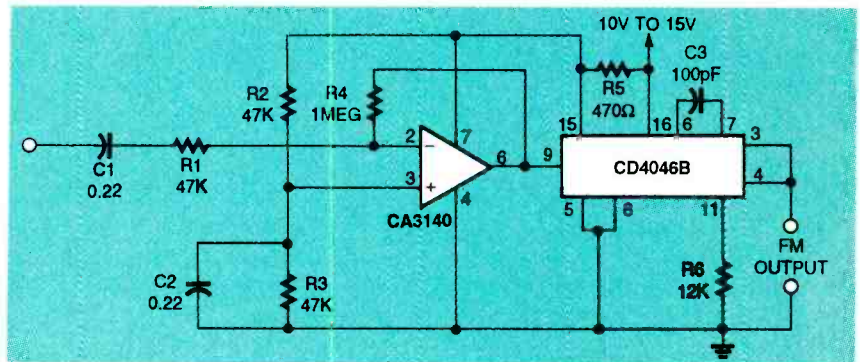

FIG. 8—FREQUENCY MODULATOR CIRCUIT generates 220 kHz.
The circuit in Fig. 8 is a 220-kHz frequency modulation (FM) waveform generator. The internal Zener diode at pin 15 of the CD4046B provides a stable power supply for the CD3140 op-amp, which is configured as a multiply-by-20 inverting AC amplifier. It has a quiescent bias of about 2.6 volts applied to its non-inverting A input at pin 3 through R2 and R3.